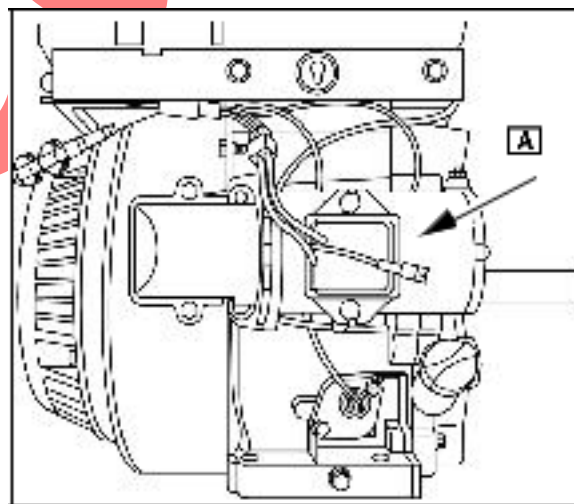
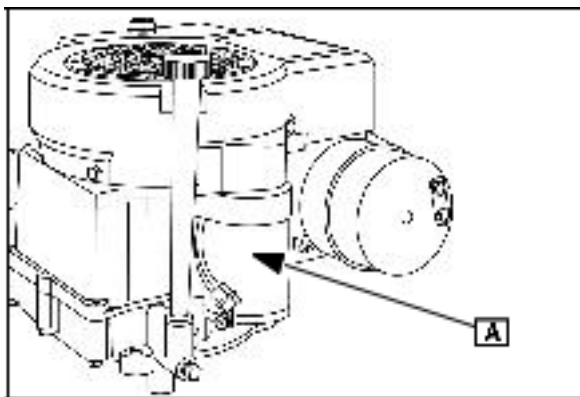

Fig. 32
Fig. 33
Typical starter locations (A) are shown for horizontal crankshaft engines (Fig. 32) and vertical crankshaft engines (Fig. 33).